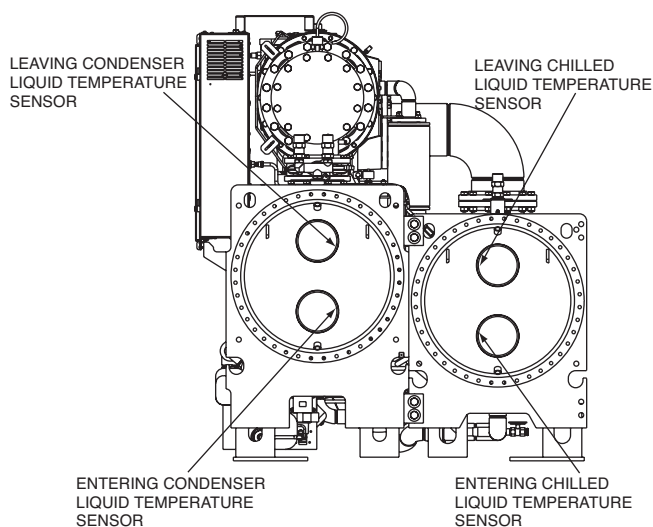

Fig. 21 — Chiller End View (Q, R Compressors Only)
- b. Entering and leaving chiller liquid temperature sensors. See Fig. 21.